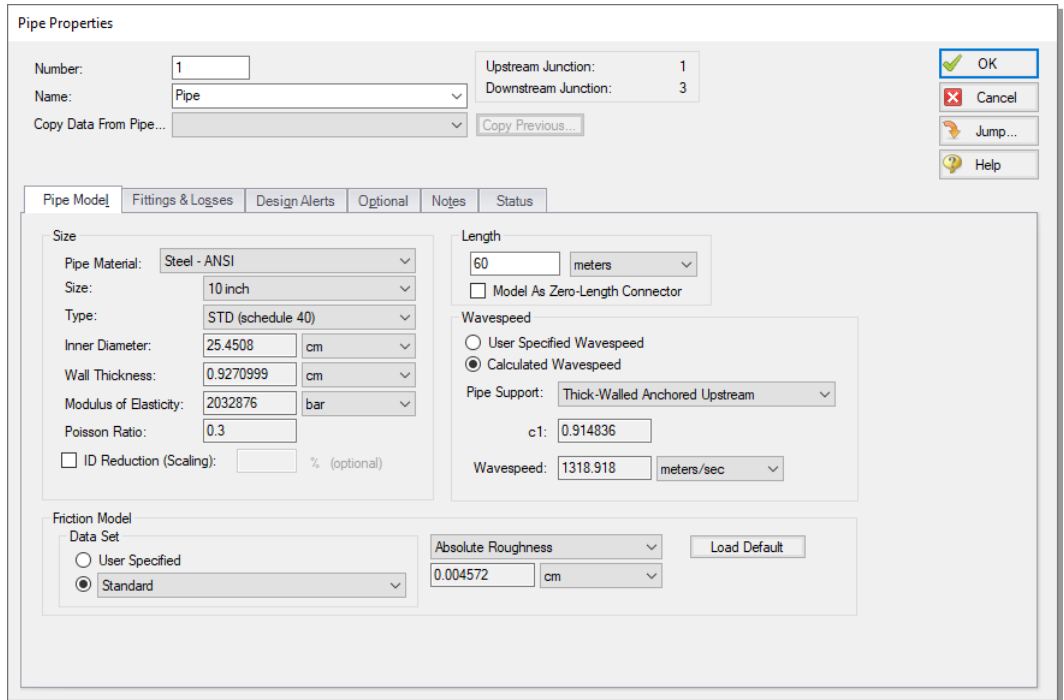

Figure 2.17 Pipe Properties window for Pipe P1
- **First, open the Pipe Properties window for Pipe P1.** The Pipe Model tab opens by default (Figure 2.17).
The wavespeed is a very important parameter in waterhammer analysis. The wavespeed can be calculated with reasonable accuracy from fluid and pipe data, or it may be available from test data or industry publications. If the wavespeed is not known (which is typical), then the Calculated Wavespeed option is the preferred option. In this case, data is required for pipe wall thickness, modulus of elasticity, Poisson Ratio, and pipe support details. Data for pipe wall thickness, modulus of elasticity, and Poisson Ratio are built into the pipe material libraries supplied with AFT Impulse, and was automatically obtained when the Steel - ANSI, 10 inch, STD (schedule 40) option was chosen. The calculated wavespeed is 1319 meters/sec (see Figure 2.17). Click OK.